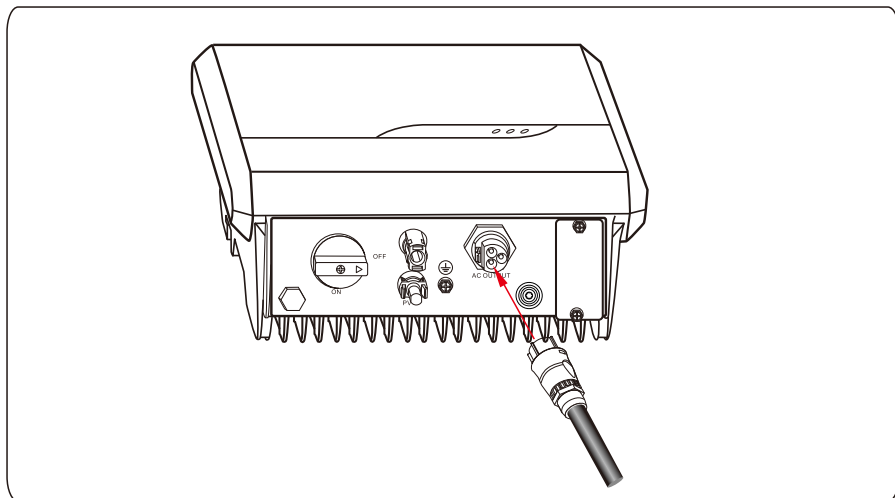

Figure 5.7 Connecting AC Cinnector
Step 3 After AC wiring, route the AC connector into the AC terminal of the inverter and double check it, as shown in Figure 5.7.